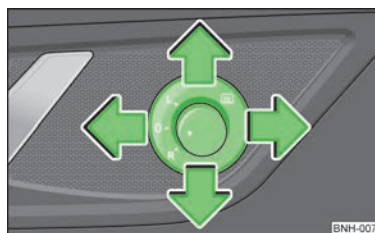

Fig. 31
- Place the rotary knob into the position  » Fig. 31.
- Place the rotary knob into the position **L** » Fig. 31. The movement of the mirror surface is identical to the movement of the rotary knob.
- Place the rotary knob into the position **R** » Fig. 31. The movement of the mirror surface is identical to the movement of the rotary knob.